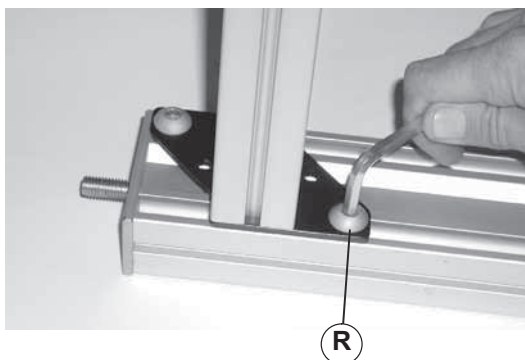

Figure 5
- Tighten four button head screws (Figure 5, item R) to 150 in-lb (17 N-m).